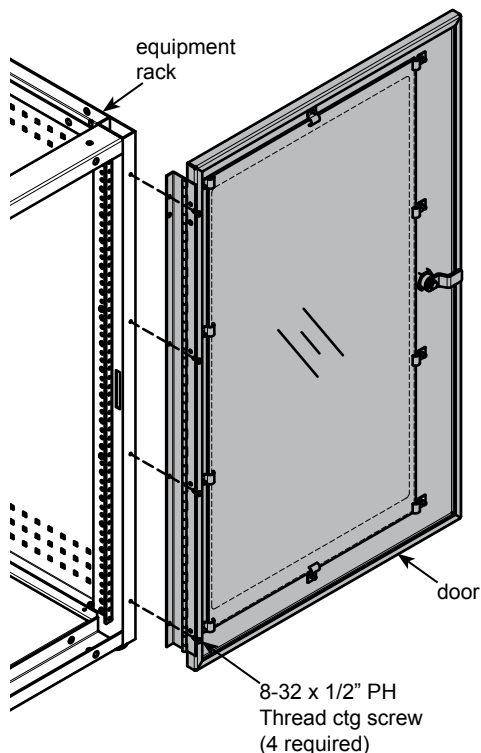

Figure 1
2. With the hinge open, align the mounting holes as shown and attach to equipment rack frame with (4) 8-32 x 1/2" PH thread cutting screws. Be sure the screws are installed straight. Do not tighten completely until all screws are installed. **Figure 1.**